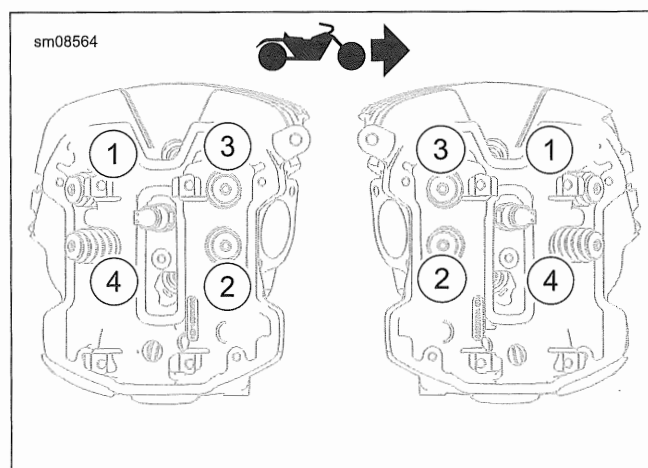

Figure 4-28. Head Bolt Tightening Sequence
2. See Figure 4-28. Remove cylinder head bolts.
5. See Figure 4-28. Tighten head nuts in five stages following sequence shown.